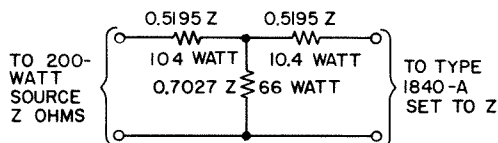

Figure 4. "T"-Network attenuator.
To use the Type 1840-A with sources of higher power (up to 200 watts), a "T"-network attenuator (Figure 4) should be used. To find the proper impedance (Z), operate the source below 20 watts. The resistance can then be calculated and the proper values can be inserted in the circuit.
Connect the "T" attenuator (Figure 4) between the source and the Type 1840-A. The attenuator adds 10 db to the meter-switch indication, and the meter now reads 200 watts full-scale.